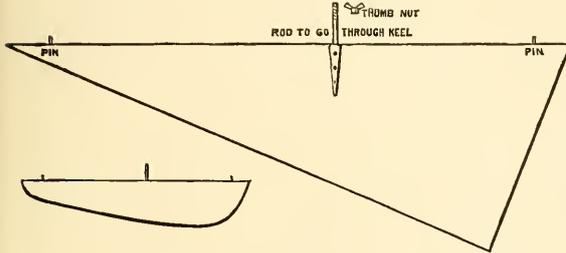

FIG. 250.
*Centre-board (a Temporary)*.—Make a board of the shape of either of those in the sketch (Fig. 250) about one-third of the length of the boat. Three bolts will be on the upper edge of the board; the centre bolt will have a thread longer than the other two, and protrude through the keel. When the board is fitted under the keel, it will be held tight to the keel by a thumb nut on the centre bolt. To unship the board when afloat unscrew the thumb nut, push the board down, and it will float up alongside. A cork will be put into the bolt hole. Of course the board cannot be shifted when the boat is afloat. It would be unsafe to sail about in shallow water with such a contrivance; nor should the boat under any circumstances be allowed to take the ground with the board fixed.